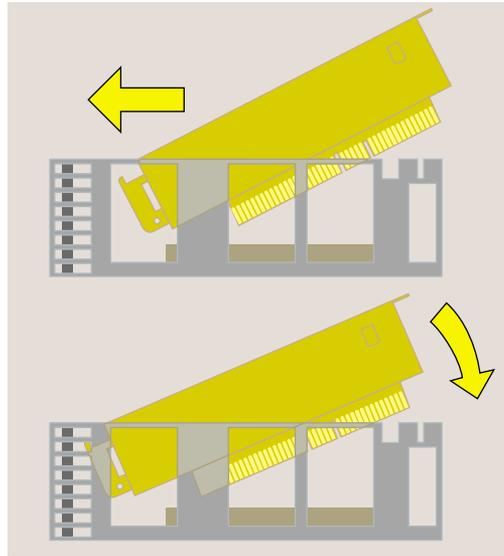

Figure 2-18 Replacing the PCI Tray in the System Module
8. Replace the tray in the system module (Figure 2-18).